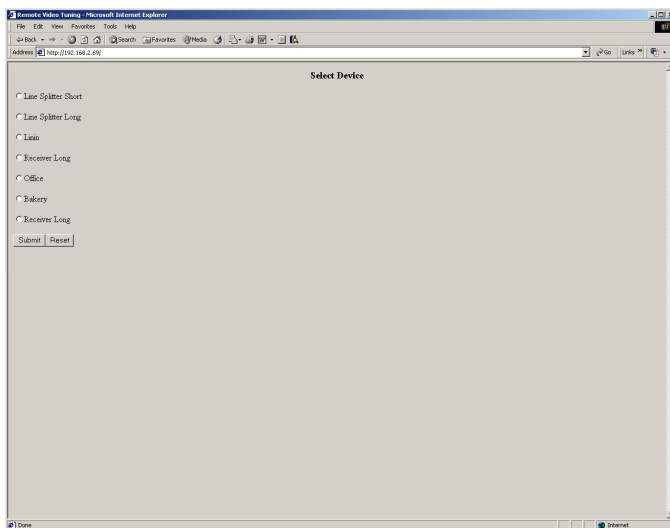

Figure 39 Select device web page
2. Press Enter. A list of all Receivers L, Receivers DCL and Line Splitters connected to the player appears, see Figure 39.